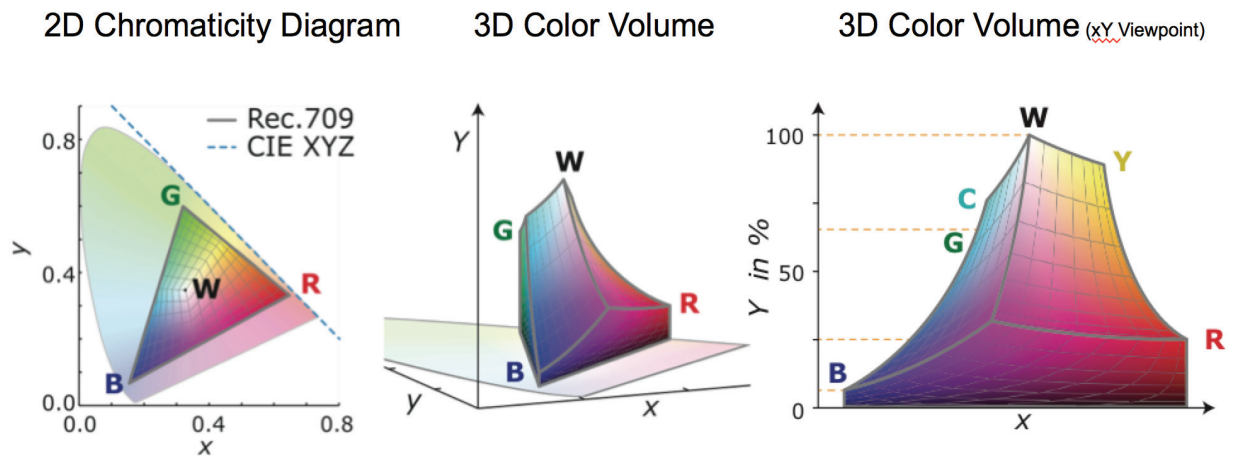

Figure 5: Color Volume of the Rec. 709 Standard (Source: Dolby)
But the best way to describe all possible perceived colors is a three-dimensional coordinate system. Many different coordinate system exists, one of which is CIELUV. Figure 5 shows the color volume of the Rec. 709 color standard, which is the one used for HDTV. The horizontal axes are x and y' chromaticity coordinates while the vertical axis is luminance or brightness (Y). The left graphic shows Rec. 709 as a 2D representation, while the other two show two different views of the 3D representation.
When HDR content is coupled with WCG content and display, the effect is even more amazing. Why? Because the higher luminance capabilities of the TVs allow bright elements to now have color, enabling point B to now be displayed as in Figure 5. This, coupled with the more saturated colors and the increase in apparent brightness (HK effect), leads to a big overall impact.